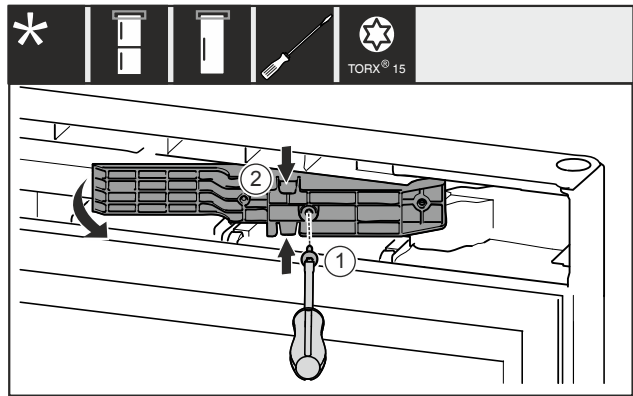

Fig. 14 *
- Remove the screw Fig. 14 (1)*
- Gently press the adapter piece Fig. 14 (2) together at the top and bottom and pull it out.*